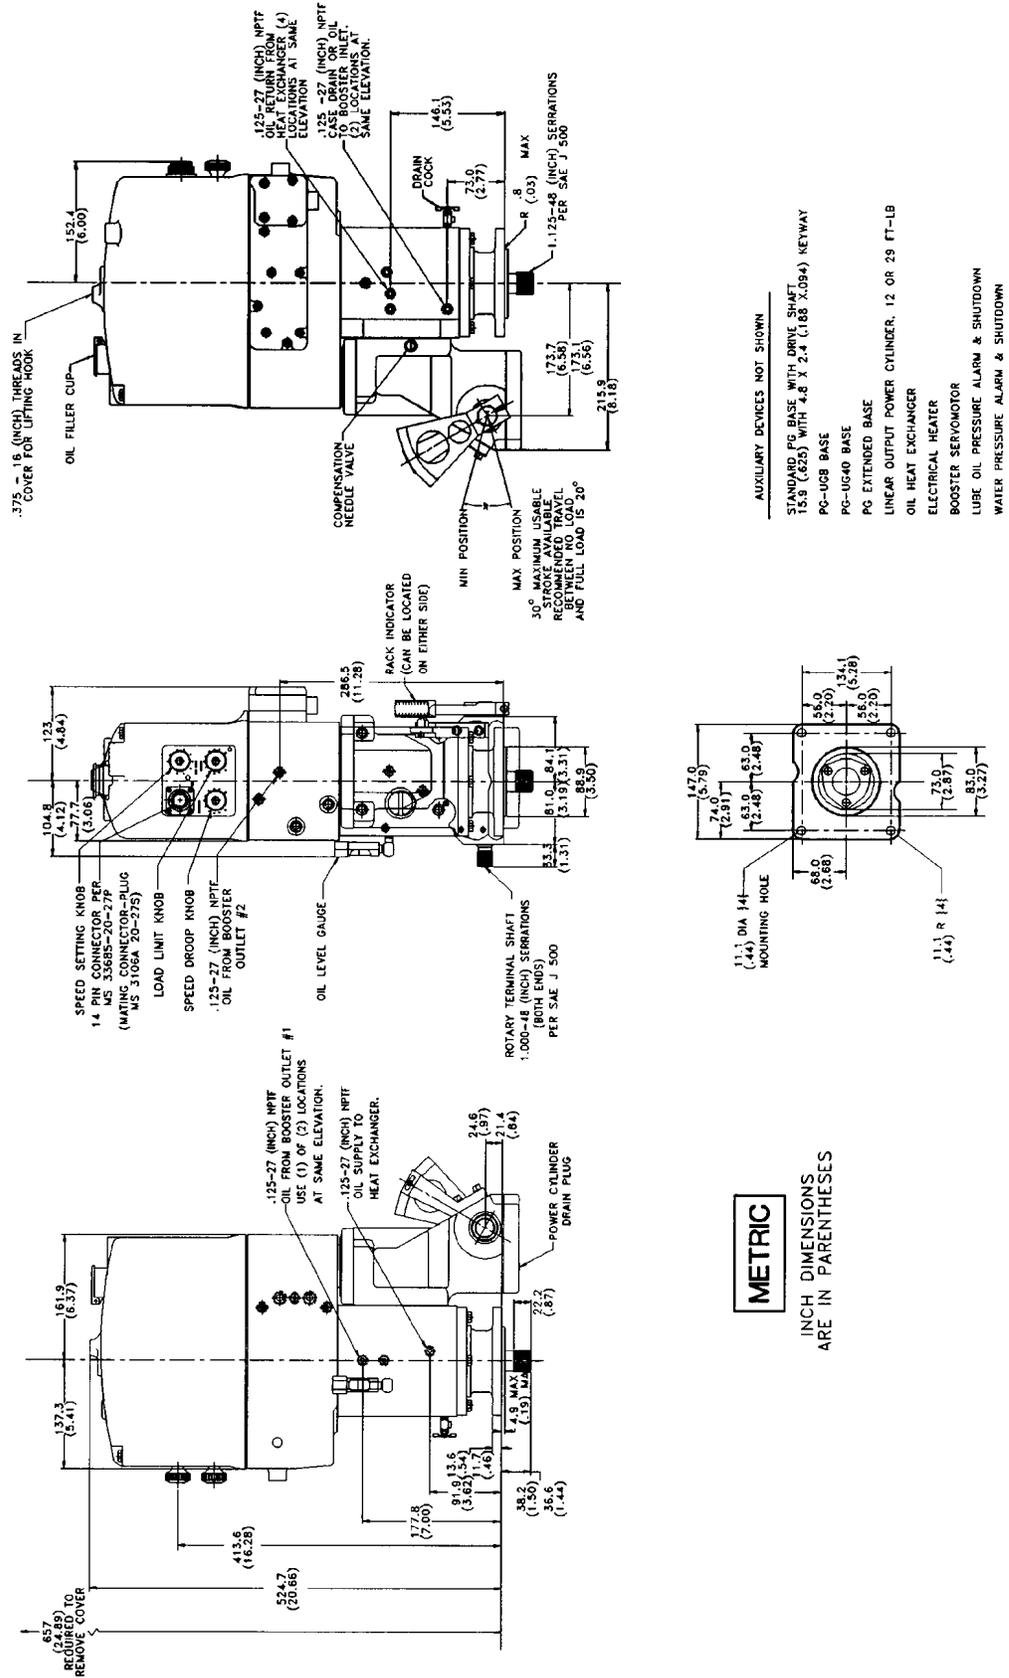

Figure 2-4. PGG Outline Drawing (Do Not Use For Construction)
Refer to outline drawing, Figure 2-4, for typical: (1) overall dimensions, (2) mounting hole locations, (3) hydraulic fitting sizes, (4) drive and output shaft dimensions, and (5) adjustment locations.